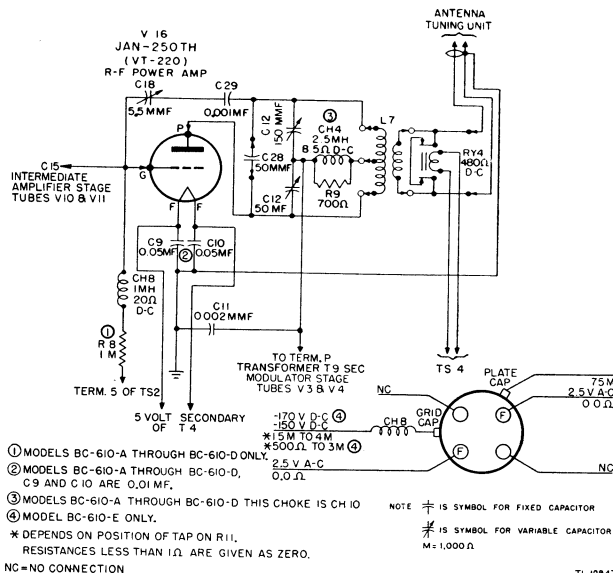

Figure 31. Radio Transmitter BC-610-(*) r-f power amplifier stage, schematic wiring diagram.
28. R-F Power Amplifier Stage (fig. 31)